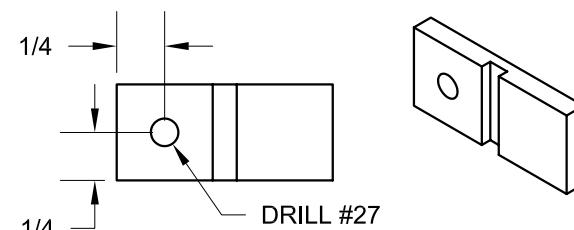
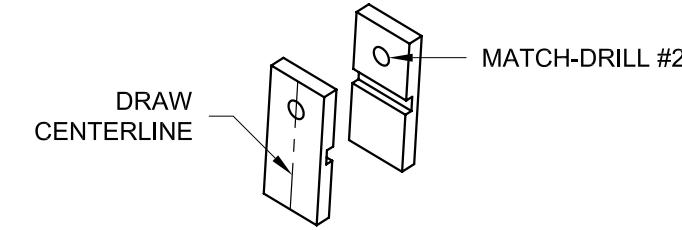

FIGURE 2: DRILLING THE GUIDE
FIGURE 3: MATCH-DRILLING THE GUIDE
Step 2: Drill #27 a hole in one end of the F-1048G Rudder Cable Guide per the dimensions in Figure 2. Clamp the drilled guide to an un-drilled guide and match-drill #27 the hole into both parts. Mark a centerline on the non-slotted face of one of the guides. See Figure 3. Mark this pair of guides as a set then repeat this step for the remaining two guides.